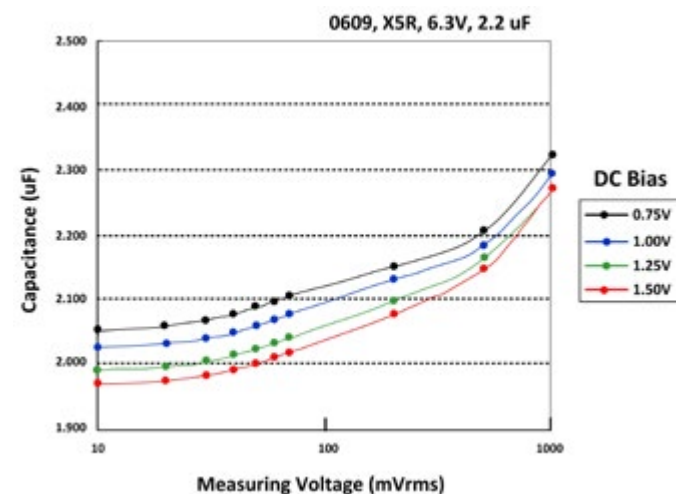

Figure 3: DC/AC Voltage Effects on MLCCs
The well documented capacitance change due to temperature is dependent on the dielectric material, and yields a known capacitance change over a defined temperature range. However another contributor that affects effective capacitance is the applied DC voltage, typically called the "DC Bias effect". As the applied DC voltage increases, the dielectric constant (K) and capacitance both decrease as a temporary phenomenon. Additionally, as any applied AC voltage decreases, the effective C value also decreases. This AC related decrease is important in low voltage applications where ripple voltage control is critical such as in Vcore designs for CPUs. See Figure 3.